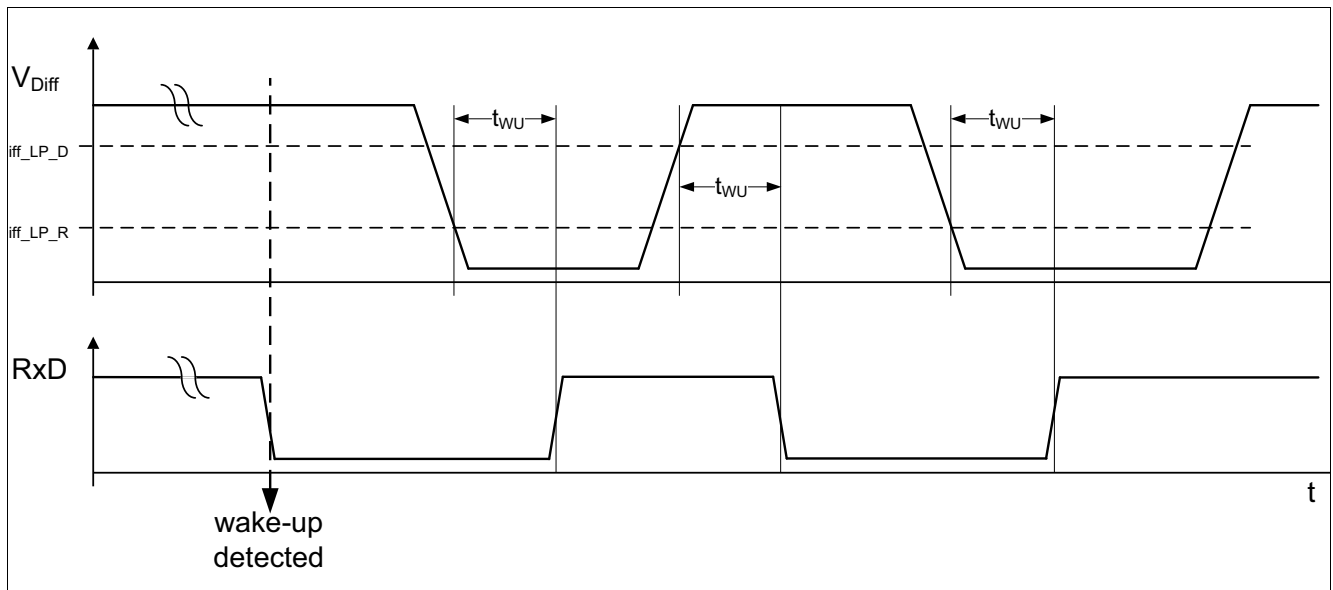

Figure 7 **RxD signal after wake-up detection**
- The low-power receiver is enabled and monitors the HS CAN bus for a valid wake-up pattern (WUP). The RxD output pin indicates the detection of a valid wake-up pattern (Chapter 5.4). As long as no wake-up event is detected, the default of the RxD output is "high". After detecting a wake-up, the RxD follows the bus with a certain delay (see Figure 7)
After the device detects a wake-up event the RxD output follows the CANH/CANL input pins. Dominant and recessive signals are indicated on the RxD output as "high" and "low" with the delay of t_{WU} as long their pulse width exceeds the filter time t_{Filter} (see also Figure 7).